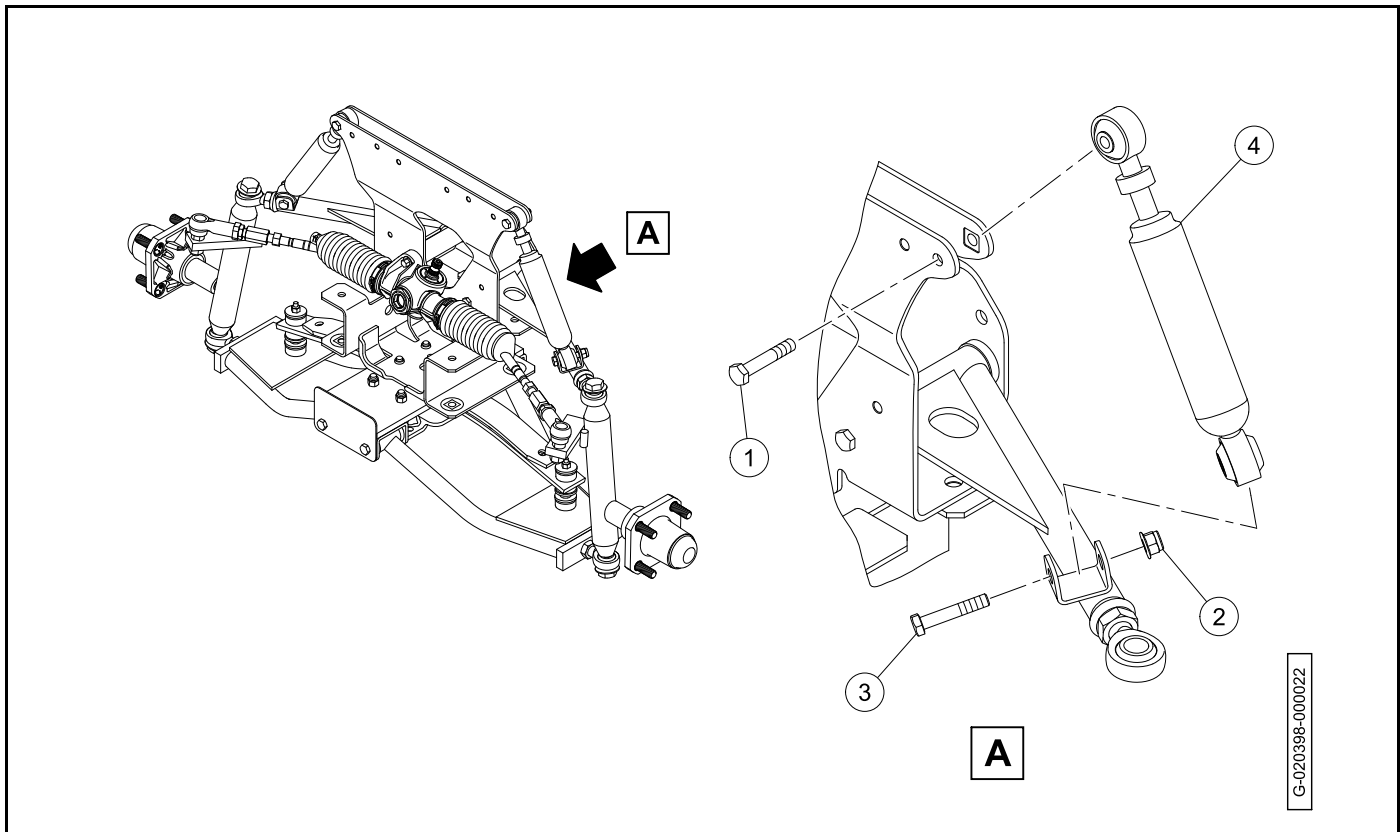

Figure 7-47
2. Remove the upper bolt (1) (**Figure 7-47, Page 7-36**).
1. Make sure that the front shock absorbers (4) have the same part number (**Figure 7-47**).
3. Install the upper bolt (1). Tighten the upper bolt to 29 lb·ft (39 N·m).
4. Install the lower bolt (3) and nut (2). Tighten the lower bolt to 29 lb·ft (39 N·m).